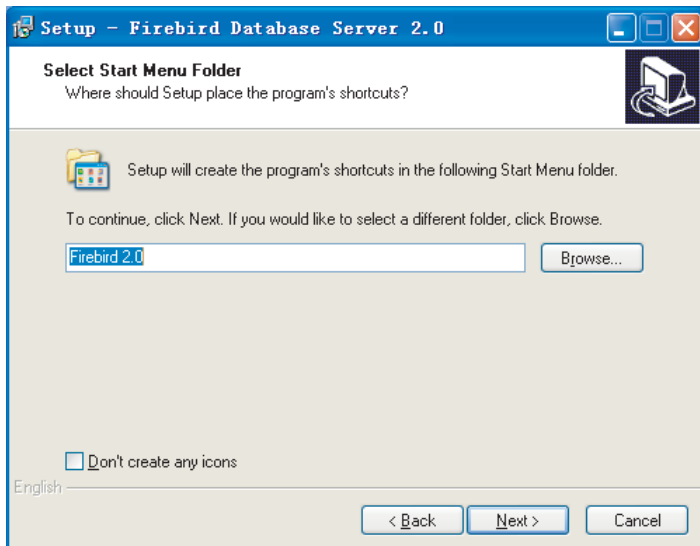

Fig. 2-8
7) Installation window as Fig. 2-8, click “Next” to continue: